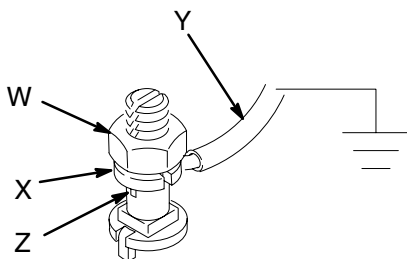

Fig. 1
1. *Pump Models 217337, 246041, and 224567:* order Part No. 237569 Ground Wire and Clamp. See Fig. 1. Loosen the grounding lug locknut (W) and washer (X). Insert one end of the ground wire (Y) into the slot in lug (Z) and tighten the locknut securely. Connect the other end of the wire to a true earth ground.